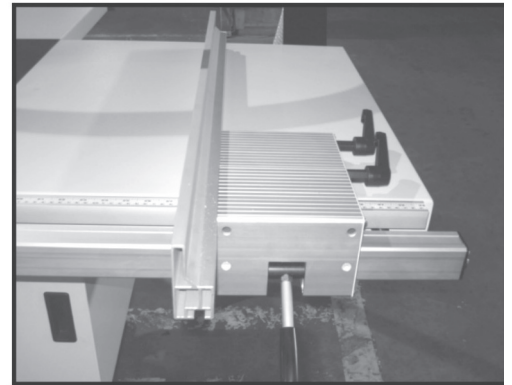
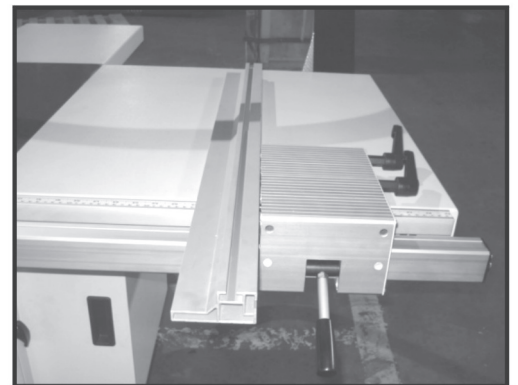

Fig. 40
Fig. 41
1. Place the fence in the vertical position (Fig. 40) for larger workpiece, or in the horizontal position (Fig. 41) for angled cuts and for small workpiece.